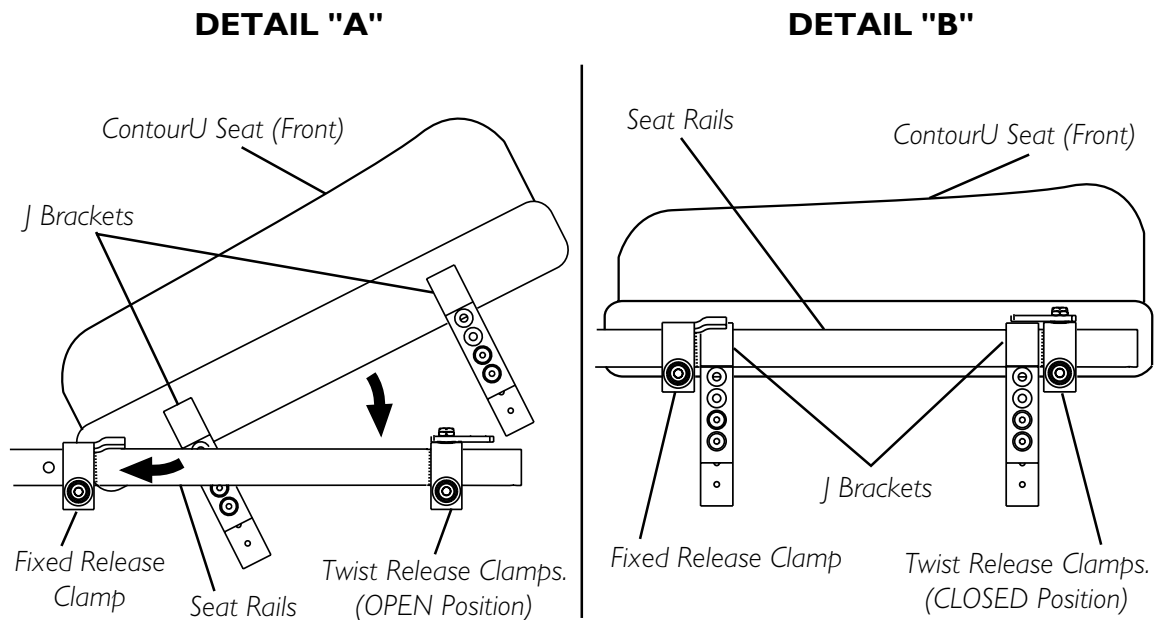

FIGURE 10 - INSTALLING/REMOVING THE CONTOUR U SEATING SYSTEM SEAT
INSTALLING/REMOVING THE CONTOUR U SEATING SYSTEM SEAT (FIGURE 10)
1. Ensure that the twist release clamps are in the OPEN position as shown in DETAIL "A" of FIGURE 10.
2. Position the rear J brackets securely into the fixed release clamps as shown in FIGURE 10.
4. Rotate the twist release clamps to the CLOSED position as shown in DETAIL "B" of FIGURE 10.
1. Rotate the two (2) twist release clamps to the OPEN position as shown in DETAIL "B" of FIGURE 10.